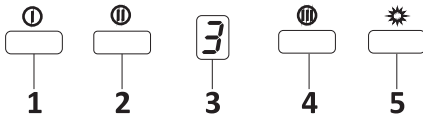

Fig. 11: Touch Button
1. Press this button to turn on the product. When this button is pressed, product will also operate at speed level 1 (Fig.11).
2. When this button is pressed, product will operate at speed level 2 (Fig.11).
3. Dgt Display: You can see the operation rate of product on this screen (Fig.11).
4. When this button is pressed, product will operate at speed level 3 (Fig.11).
5. Press this button to turn on or off the lamp (Fig.11).